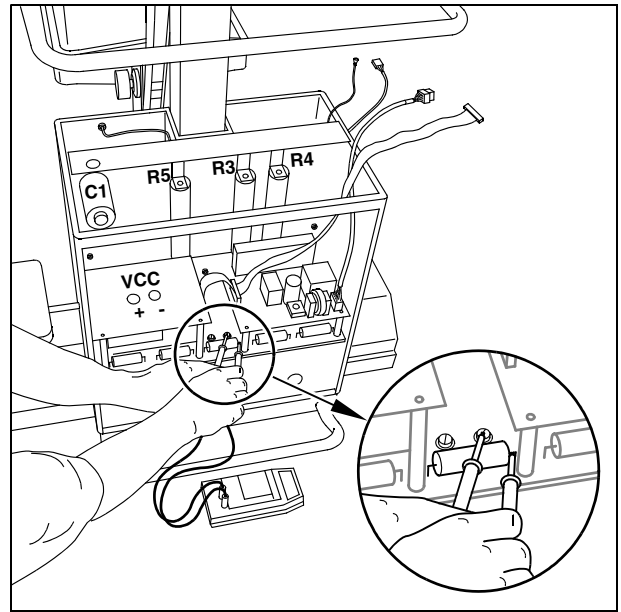

Fig. 1
- Always measure the actual voltage present with the DVM at test points -VCC and + VCC on the D 960 inverter board or (more accessible) on the D 970 capacitor board at the + connection point of capacitor C3 and on the right side of fuse F3 (refer to Fig. 1).